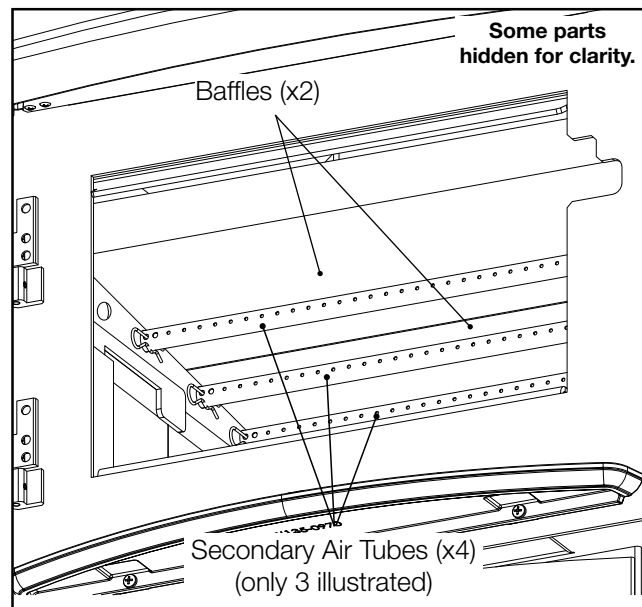

Fig. 4-4
- A.** Carefully pivot two “E” fibre baffles up onto the secondary air tubes as illustrated (**Fig. 4-4**). **Installation of the baffles may be facilitated by removing the two front secondary air tubes (see “secondary air tube” section).** Ensure that the baffles are pushed all the way to the rear of the firebox, leaving a minimum of a 1 inch gap along the front. This will allow the flue gases to escape the firebox. Ensure the overlap joint is tight and the notch is facing towards the front.